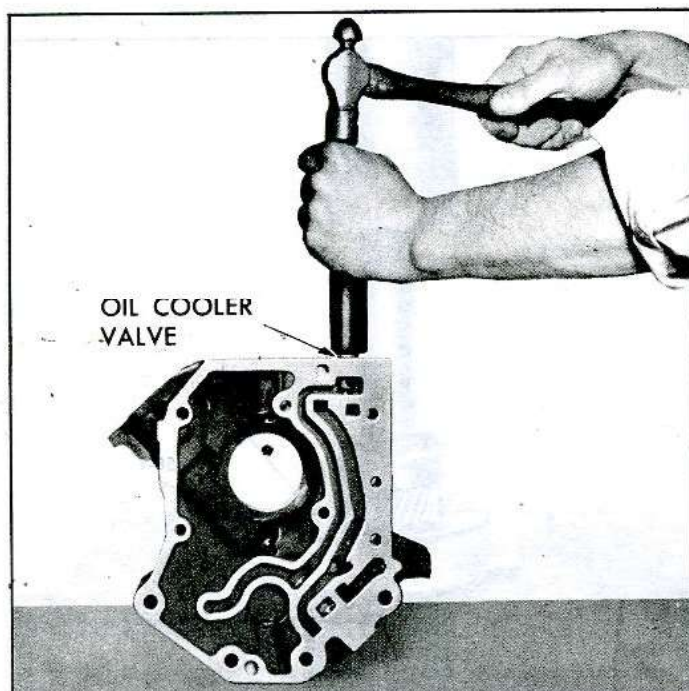

Fig. 115—Installing Oil Cooler By-Pass Valve
2. Install a new oil cooler by-pass valve with the spring down (fig. 115).